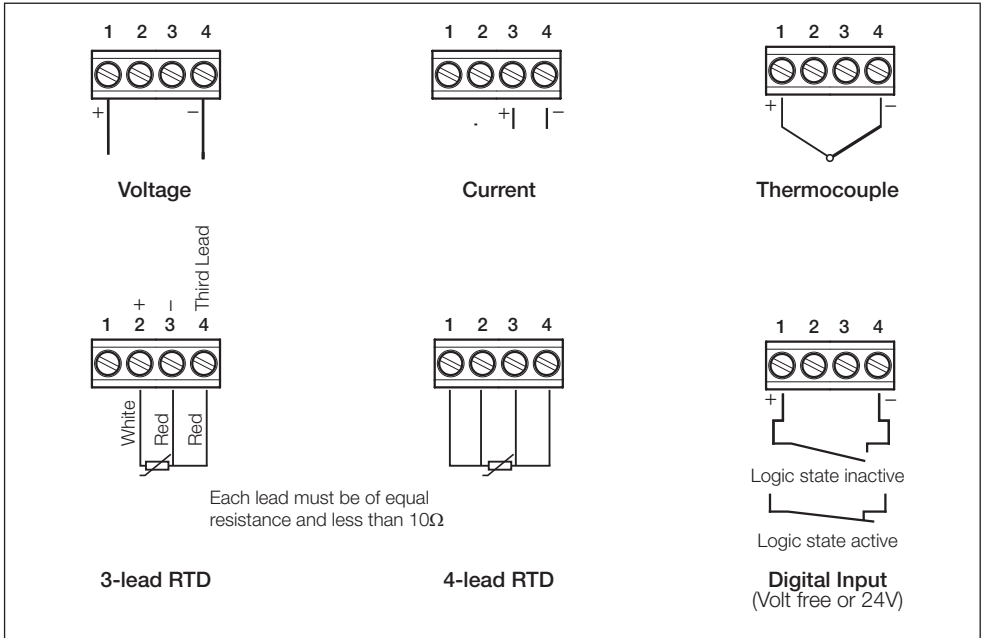

Fig. 2.9 Analog/Digital Input Connections
2.4.1 Thermocouple – Fig. 2.9
2.4.2 Resistance Thermometer (RTD) – Fig. 2.9